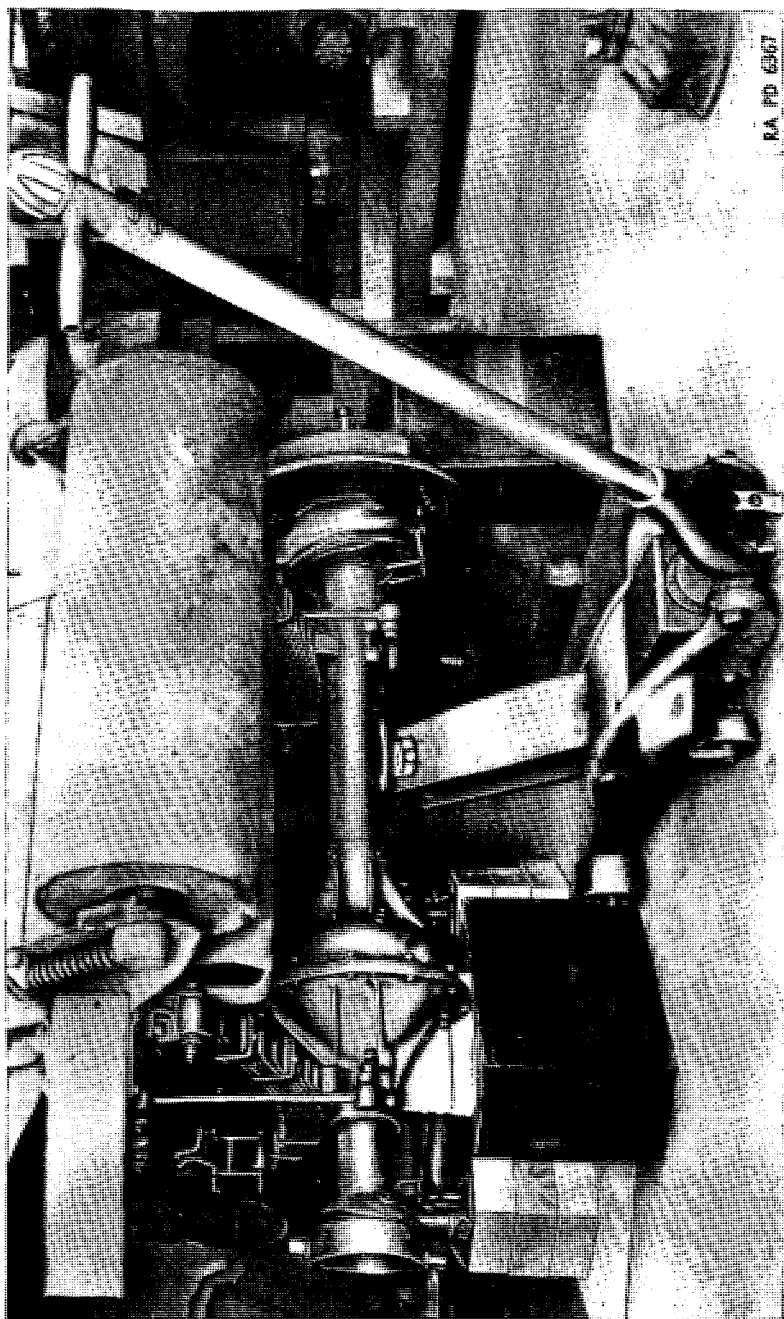

FIGURE 42.—Front axle installation.
(1) Replace ends— $1\frac{5}{16}$ -inch socket wrench, $\frac{7}{8}$ -inch open end wrench. Thread left- and right-hand ends onto cross tube. Replace clamp bolts, nuts, and lock washers, and draw up snug until vehicle is tested for "toe-in," after which they should be tightened town.
(2) Replace end stud assembly—screw driver, pliers. Insert stud seat, pin, retainer, stud, spring, and plug into bottom of tube ends, and lock these in position with locking ring.
(3) Install dust shields and top spring. Insert washer, dust seals, and outer spring over stud.
(4) Attach tie-rod assembly to axle—pliers, $1\frac{1}{16}$ -inch socket wrench. Install the tie-rod assembly on the axle and lock in position with nut and cotter pin.
b. Position axle to chassis—jack. Place axle under chassis in its approximate running position. Raise axle and make sure spring center bolt heads enter holes in axle spring seats (fig. 42).